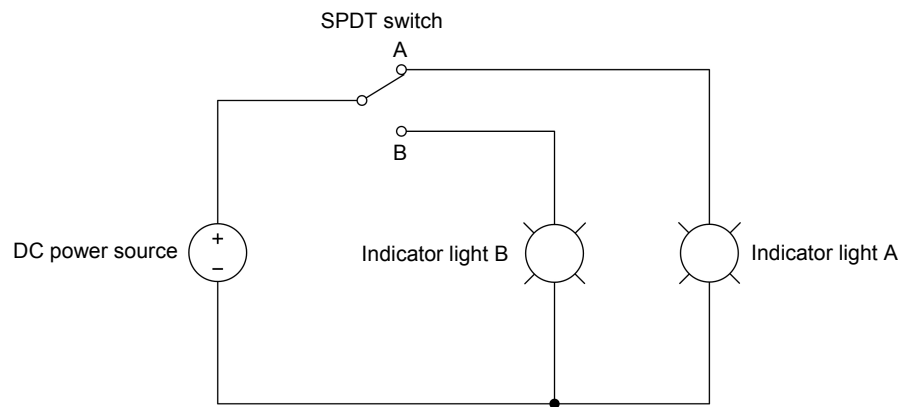
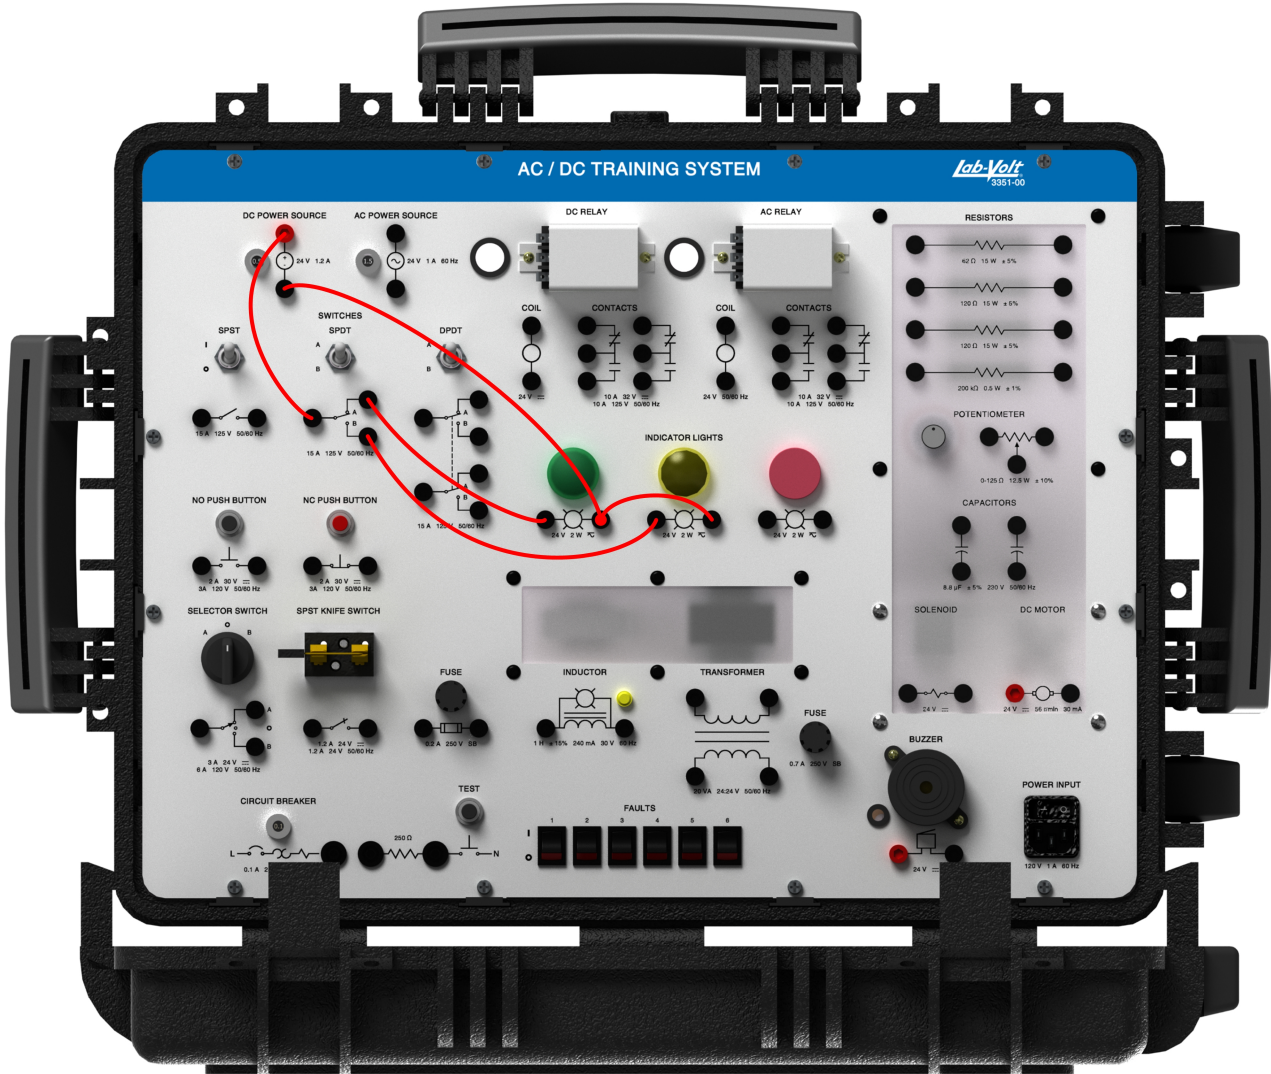

Figure 35. DC power source connected to two indicator lights and an SPDT switch (circuit diagram).
Figure 36. DC power source connected to two indicator lights and an SPDT switch (wiring diagram).
25. Connect the circuit shown in Figure 35. In this circuit, the SPST switch is replaced by a single-pole double-throw switch (SPDT) and a second branch (also containing an indicator light) is added. When you connect the SPDT switch, make sure that it is in position A. Figure 36 shows the corresponding wiring diagram.